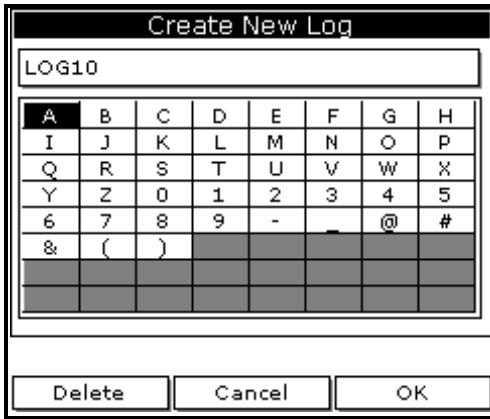

Figure 42: Name Entry Window for a New Log
4. Use the arrow key to scroll to **Clone Selected Log** and press [ENTER]. The screen now appears similar to Figure 42 on page 104.